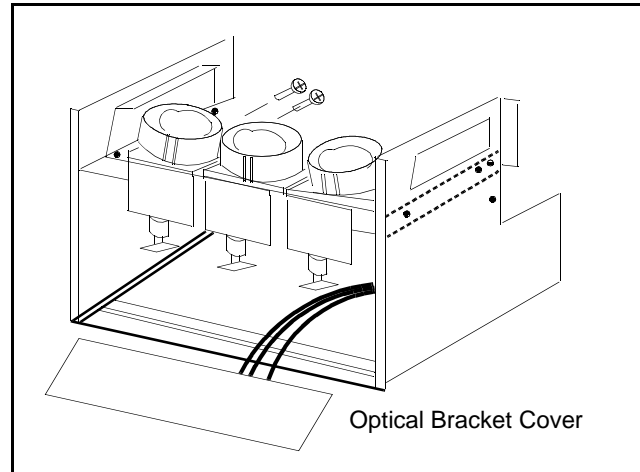

Figure 16. CRT Replacement.
7. Remove (2) screws from the defective CRT housing. See Fig. 16.**